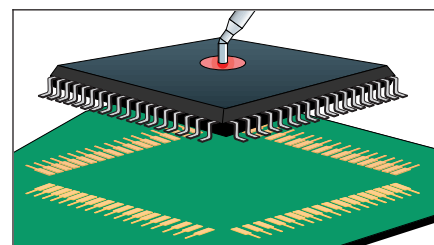

Figure 1 Position Component
3. Position component ensuring proper lead-to-land alignment. Hold component in place using the vacuum pick up tool or tweezers. (See Figure 1.)